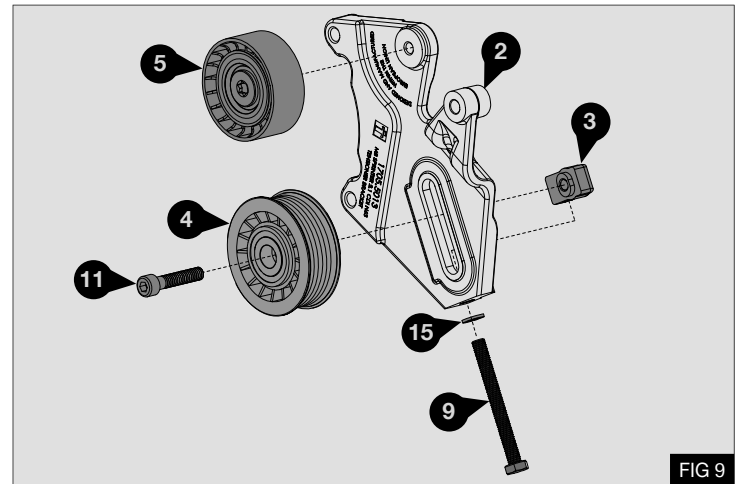

FIG 9
1. Mount the idle pulley ⑤ previously removed onto the tensioner bracket ② in the position shown - Fig 9
2. Mount the supplied idle pulley ④ on to the tensioner bracket ② using bolt ⑪, draw bolt mounting block ③, washer ⑮ and M8 x 80 bolt ⑨ in the position shown. Leaving the idle pulley tensioner assembly loose - Fig 9